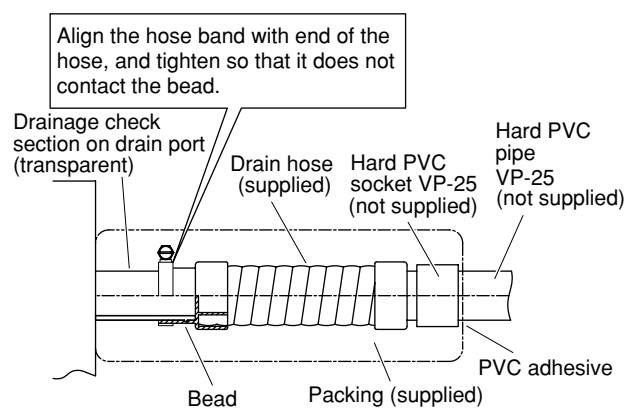

Fig. 3-26a
- (1) Prepare standard hard PVC pipe (O.D. 32 mm) for the drain and use the supplied drain hose and hose band to prevent water leaks. The PVC pipe must be purchased separately. The unit's transparent drain port allows you to check drainage. (Fig. 3-26a)
- Tighten the hose clamps so their locking nuts face upward. (Fig. 3-26a)